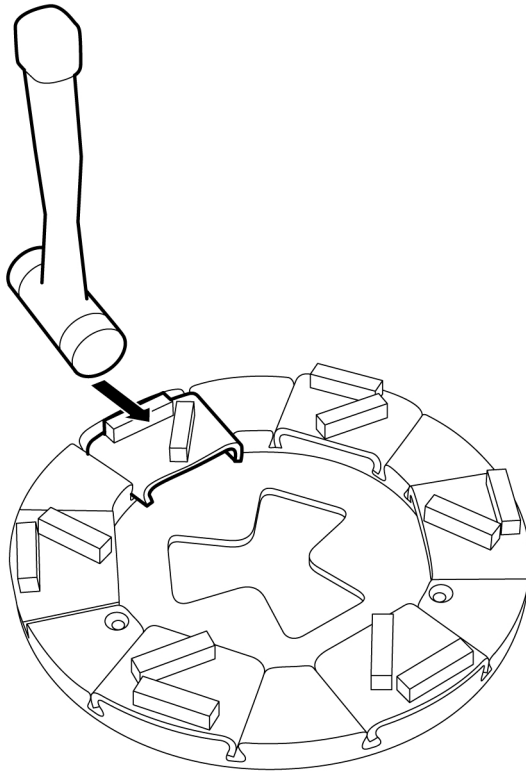

Figure 4-5. Removing grinding tools
1. Remove the grinding tool by giving it a few light taps with a rubber hammer so the locking mechanism releases, see Figure 4-5, page 16. Then draw the tool up out of the guide slot.